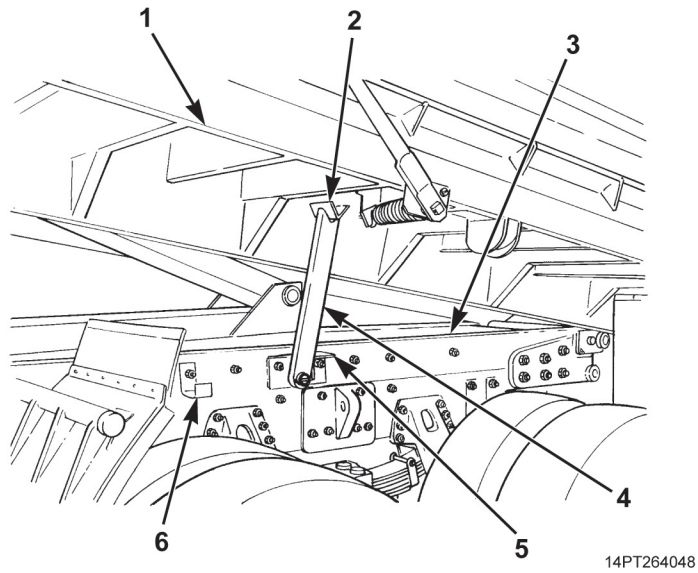

Figure 12. Body Prop Operation.
- c. Raise dump body (Figure 12, Item 1).
- d. Raise body prop (Figure 12, Item 4) on each side of vehicle chassis (Figure 12, Item 3) until prop contacts stop (Figure 12, Item 5).
- e. Turn off main light switch and disengage PTO (TM 9-2320-363-10 or TM 9-2320-302-10). Operate hydraulic control lever to lower dump body (Figure 12, Item 1) until body props (Figure 12, Item 4) firmly engage V-brackets (Figure 12, Item 2).
- b. Raise dump body (Figure 12, Item 1) until body props (Figure 12, Item 4) are clear of V-brackets (Figure 12, Item 2).
- c. Swing body props (Figure 12, Item 4) down to stowed position in stowage brackets (Figure 12, Item 6).
- d. With engine at idle speed, lower dump body (Figure 12, Item 1).